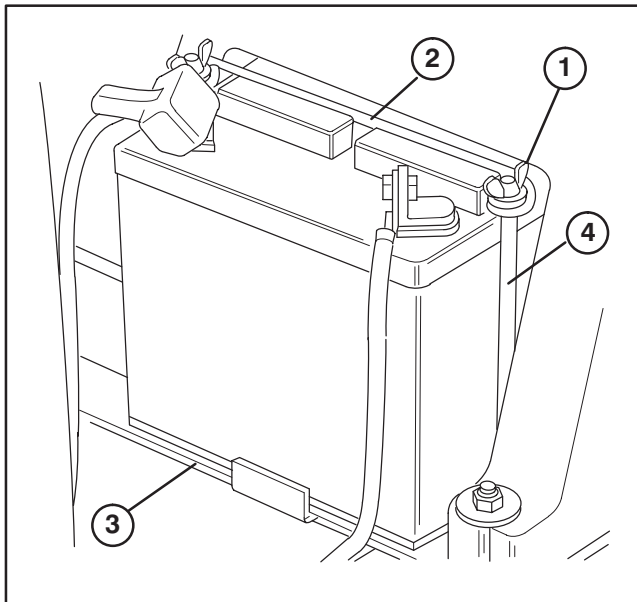

Figure 4
2. Remove wing nuts and washers securing battery clamp to battery bolts and remove battery from machine. Remove filler caps from battery and slowly fill each cell until electrolyte is just above the plates (Fig. 4).
6. Mount battery on battery pad with terminal posts toward rear of machine (Fig. 4).
7. Secure battery with to battery bolts with clamp, washers and wing nuts (Fig. 4).
8. Install the positive cable (rubber boot over end) to the positive (+) terminal and the negative cable (black) to the negative (-) terminal of the battery and secure with carriage bolts, lockwashers and nuts. Slide the rubber boot over the positive terminal to prevent possible short-out from occurring (Fig.4).